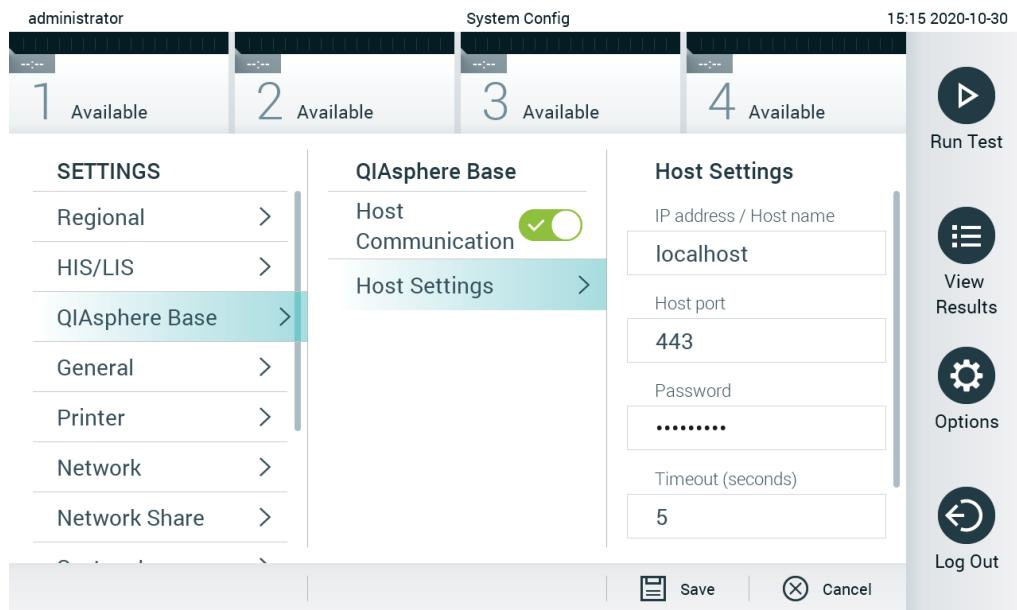

Figure 72. Configuring the QIAsphere Base connection.
2. Select **QIAsphere Base** from the settings list in the left column (Figure 72).